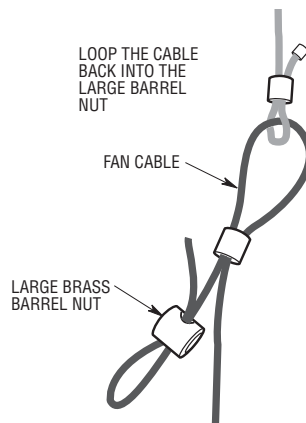

Figure 9B
9. Full tighten the 5/32 phillips head screw on the brass barrel nut to secure the fan cable in position. Cut off and discard the excess fan cable protruding from the brass barrel nut (Figure 9B).